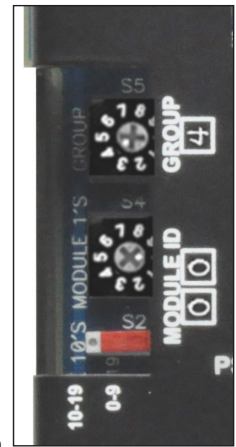

Figure 38.
1. Check the Group and Module ID settings on all modules against your system plan (Figure 38).